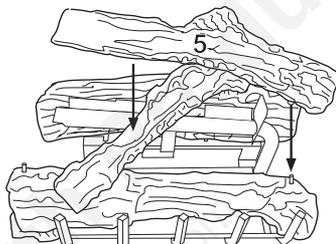

Figure 38 - Installing Log #5, Model CD42M-A
- Place log #5 (top log) onto right pin of front log (#2) and smooth surface of rear log (#3). Make sure it is seated properly (see Figure 38).